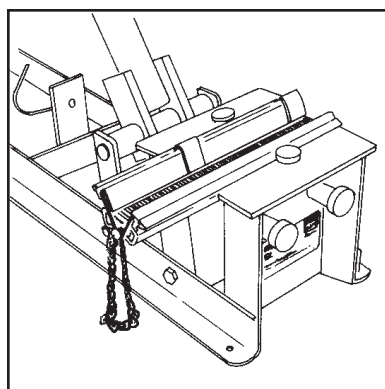

Figure 4
**7. MOVE EACH PRESSURE PLATE TO END OF JAWS.** Remove lacer pin and place card of hooks into Lacing Tool. Leave the two extra deep slots empty. Reinsert lacer pin (Fig. 4).